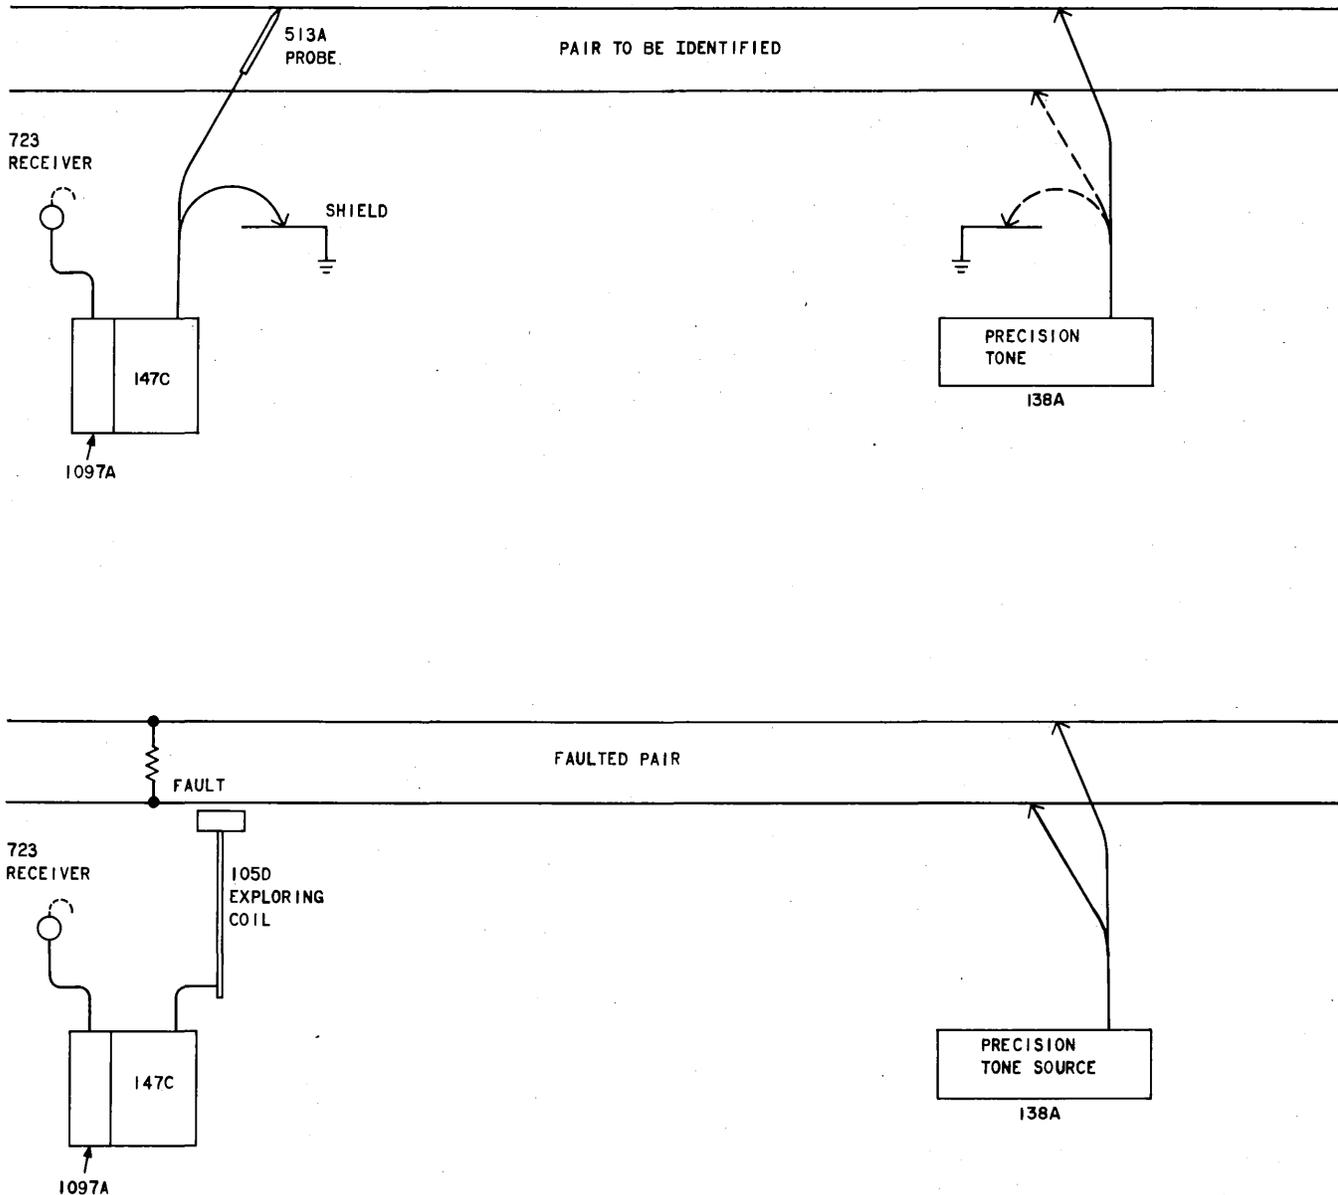

Fig. 3—138A Attached To Pair
4.02 Attach the 138A test set to the pair to be tested as shown in Fig. 3. When tone is applied, the meter indicator will fluctuate due to the meter responding to a pulse. The output of the 138A test set and the gain of the 147C amplifier must be adjusted to a usable but low level tone at the receiving headset. Setting the amplifier gain and/or the tone output too high produces a